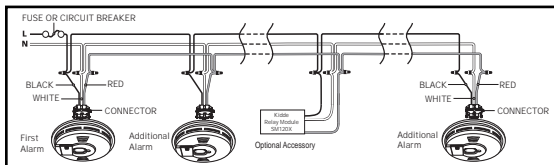

FIGURE 4 Interconnect Wiring Diagram
- Figure 4 illustrates interconnection wiring. Improper connection may result in damage to the alarm, failure to operate, or a shock hazard.